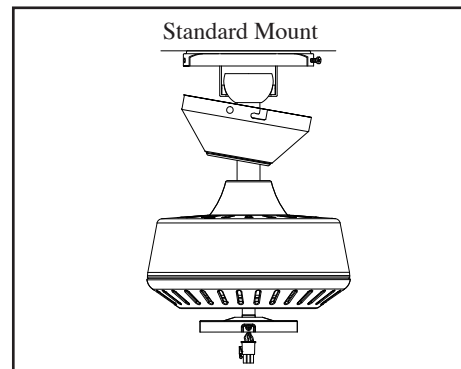

Figure 12a
6. Turn the ball/downrod assembly clockwise until it is seated with the tab of the mounting bracket aligned with the slot in the ball. (Figure 12a)